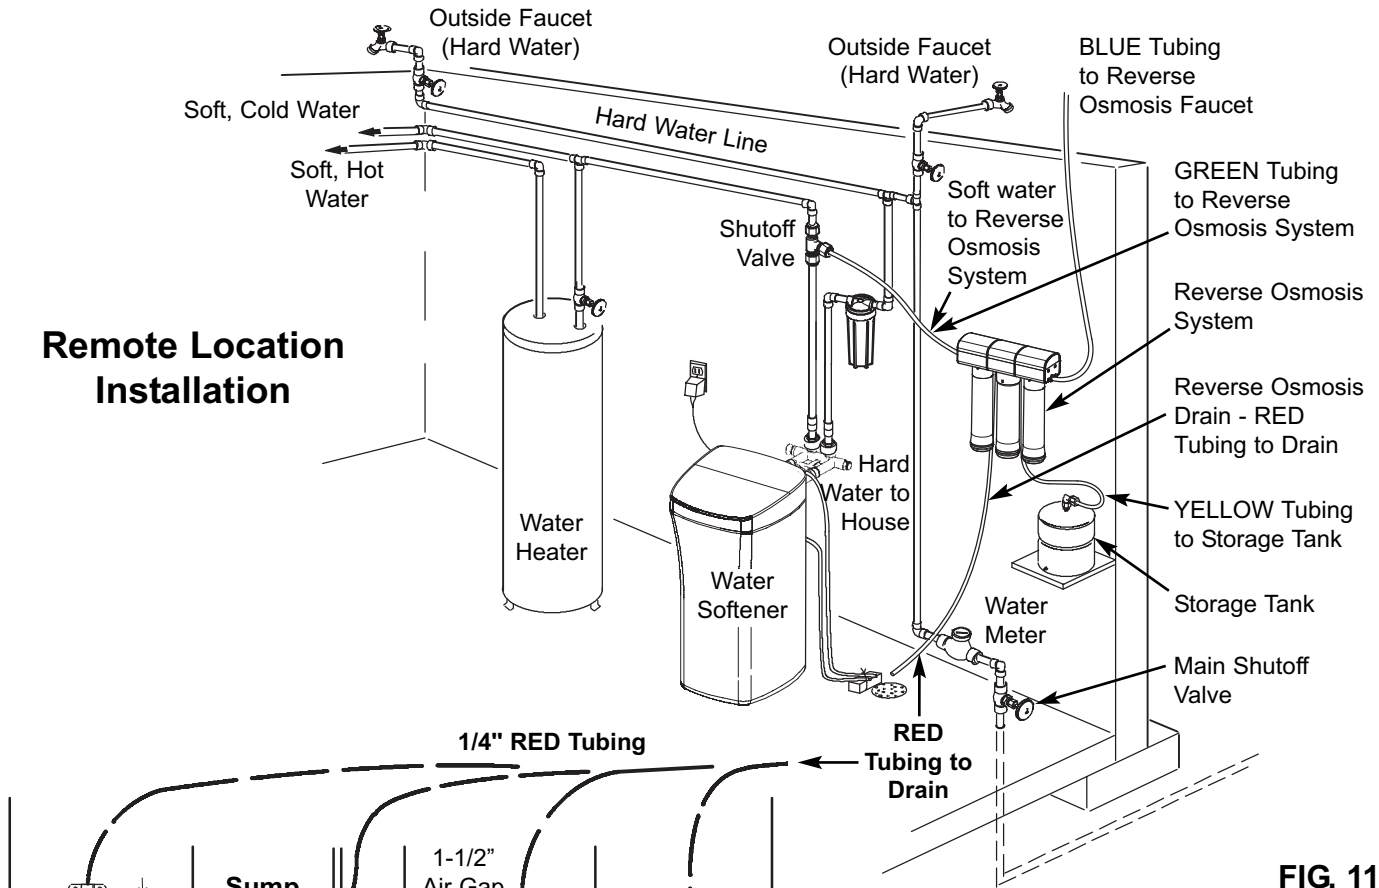
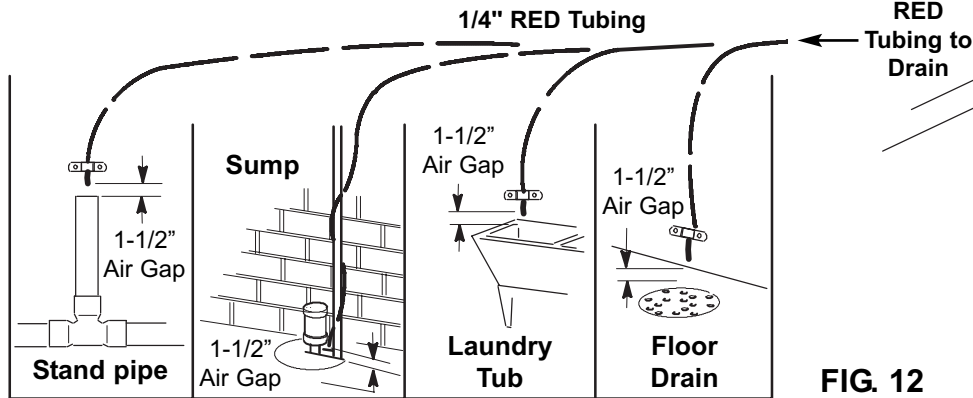

FIG. 11
FIG. 12
(See Fig 11, Fig. 12) This is usually used in remote location type installations. The drain tube from the Reverse Osmosis Filter runs directly to an open drain. See Fig. 11 & 12.
Route the drain tubing to an existing drain in the house. A floor drain, laundry tub, standpipe, sump, etc. are suitable drain points. See Fig. 12. This type of drain is the preferred over the p-trap drain adapter.
1. Locate the 1/4" red tubing on the Reverse Osmosis filter assembly. See Fig. 11.
4. Route the tubing to the drain point and secure at the end with a bracket (not included). See Fig. 12. Provide a 1-1/2" air gap between the end of the tube and the drain. See Fig. 12.